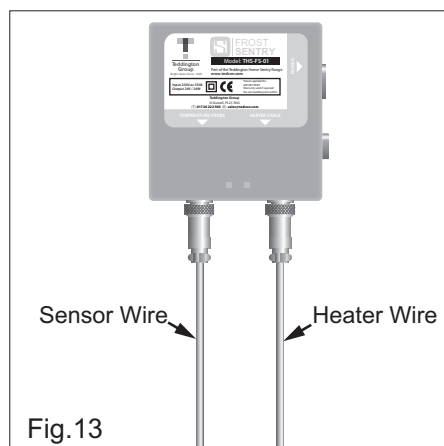

Fig.13
3. Plug the other end into the indicated connection on the Frost-Sentry unit (see Fig.13).